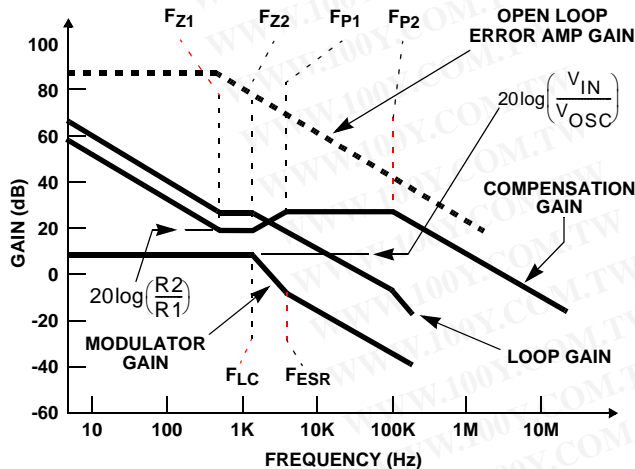

FIGURE 7. ASYMPTOTIC BODE PLOT OF CONVERTER GAIN
Figure 7 shows an asymptotic plot of the DC-DC converter's gain vs. frequency. The actual modulator gain has a high gain peak dependent on the quality factor (Q) of the output filter, which is not shown in Figure 7. Using the above procedure should yield a compensation gain similar to the curve plotted. The open loop error amplifier gain bounds the compensation gain. Check the compensation gain at  $F_{P2}$  with the capabilities of the error amplifier.